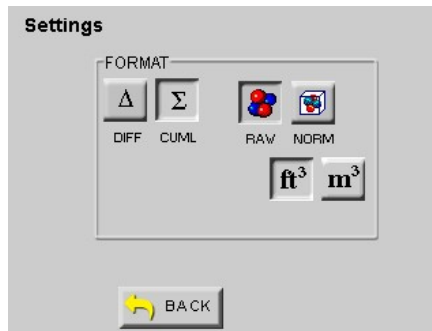

Figure 5-76 Reports Set Up Screen
- Press the BACK button then the SETTING button to format the instrument for CUML/DIFF, RAW/NORM, ft³/m³ as shown in Figure 5-76.